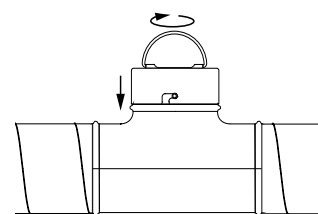

Fig. 4
6. Push the cover back onto the fitting so the rivets enter the slots (Fig. 4).
7. Turn the cover clockwise to lock it into place (Fig. 4).